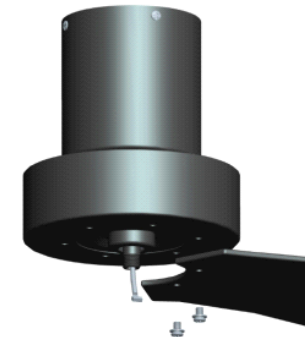

Fig 7.1
7.1 Remove the blade screws from the motor head, align two blade holes with the screw holes of the motor head and fasten blades with the blade screws as shown in Fig 7.1.